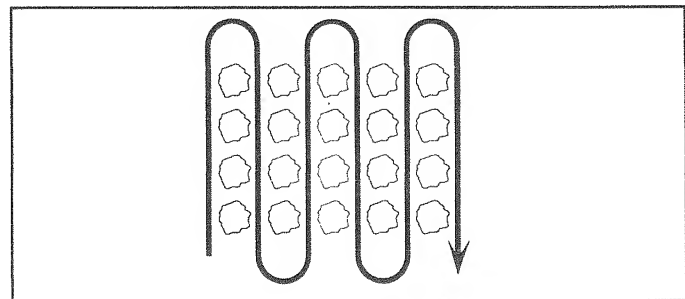

FIG. 10
- Cultivate up and down the rows at a speed which will allow tines to uproot weeds and leave the ground in rough condition, promoting no further growth of weeds and grass (See Fig. 10).